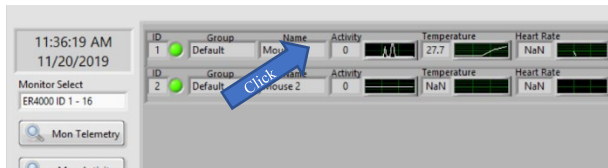
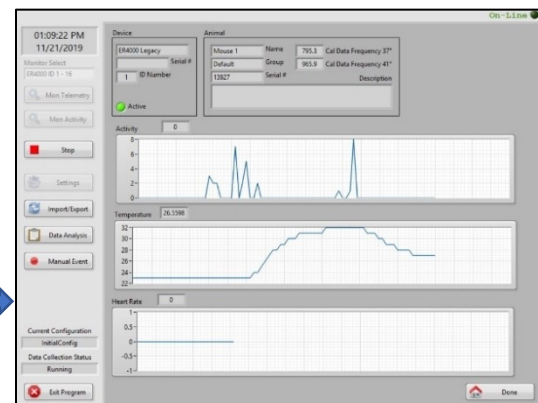

Fig 6-9
Fig 6-10
- Click anywhere on a display line (Fig 6-9) to open a detail/zoom view (Fig 6-10)
- If you close your hand around the E-Mitter and hold it above the ER-4000 so the green LED is lit, the measured temperature will rise (Fig 6-9/10)